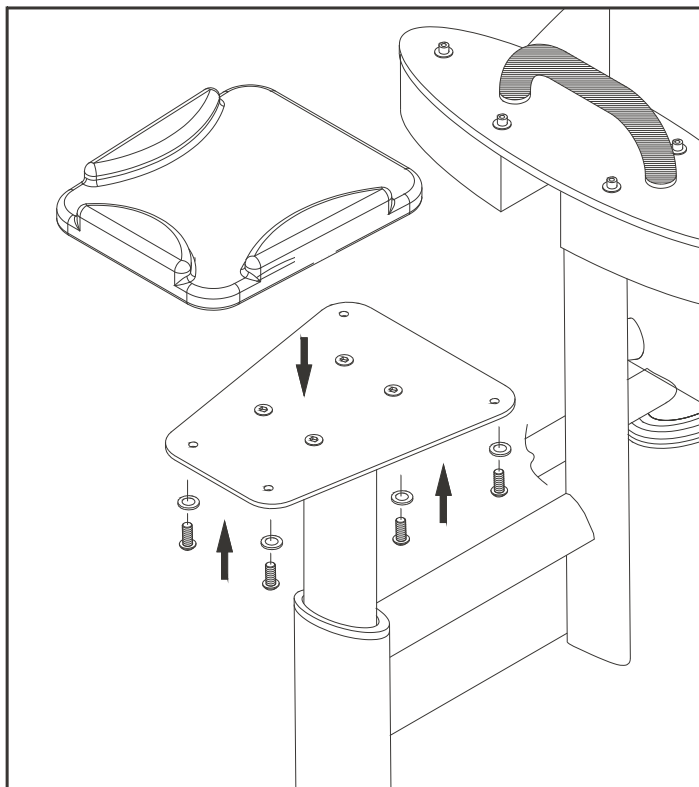

Fig.1-1
2. Fasten the seat cushion in the plate with the screws provided. (See Fig. 1-1)